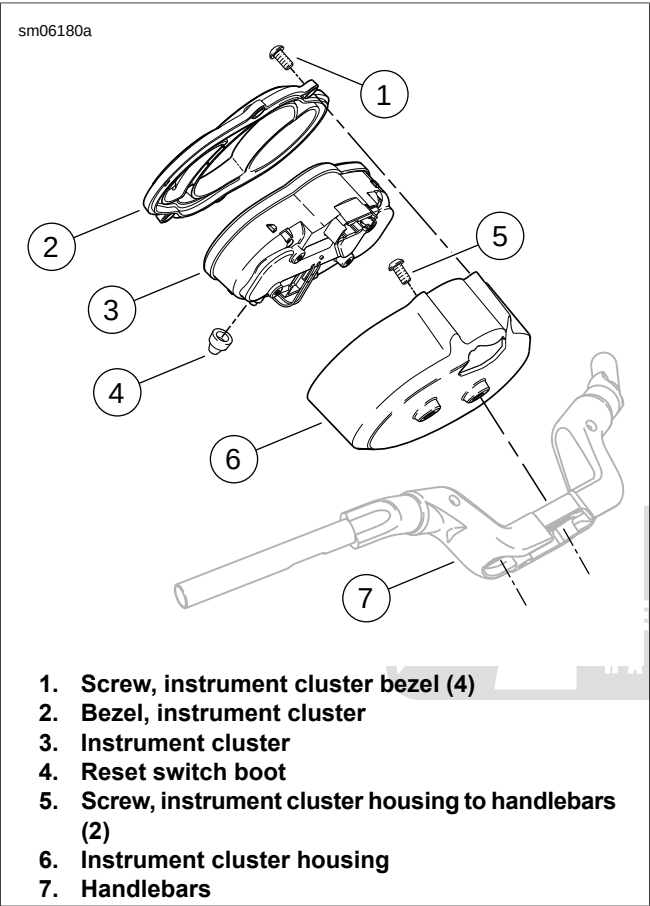

Figure 7-39. Instrument Cluster: VRSCF
4. See Figure 7-39. Remove the four screws (1) securing the bezel (2) to the instrument cluster housing (6) and remove bezel.
5. Remove reset switch boot (4) and remove instrument cluster (3) from housing (6).